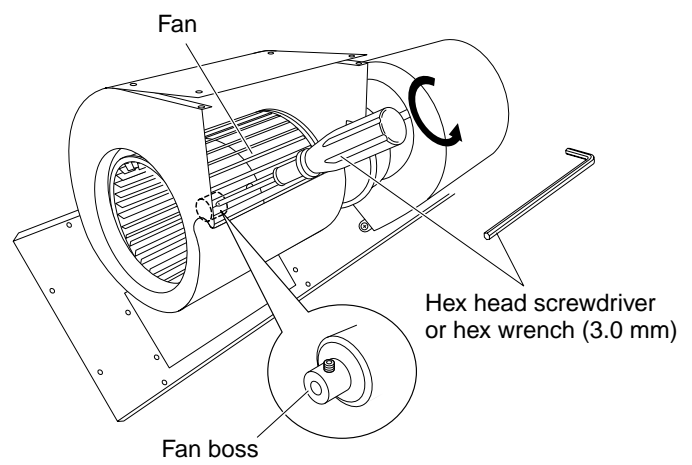

Fig. 7
(4) Insert a hex wrench in the fan boss and turn it counterclockwise to loosen the fan. (Fig. 7)